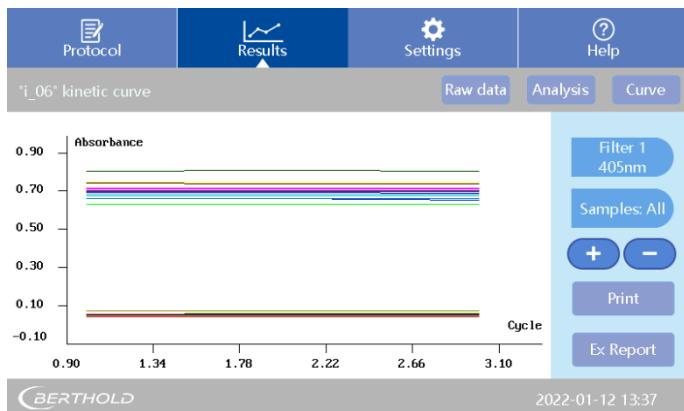

Fig 45: Kinetic curve of all samples
2. To view all sample curves press <-> at sample position A1. See Fig 45.